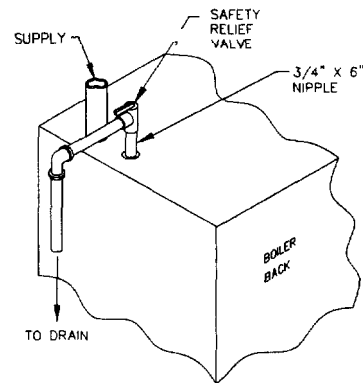

Figure 3: Safety Relief Valve Hook-Up Installation with Air Elimination in System Piping
2. The safety relief valve is not installed at the safety relief valve tapping, install the piping as shown in Figure 3.